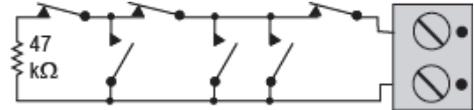

Figure 4. E.O.L. Wiring Example
2.2 Auxiliary Input Wiring (Fig. 4)
- For E.O.L. supervision: Normally Closed (N.C.) sensor contacts can be used, as shown in Figure 4. A 47kΩ E.O.L. resistor must be wired at the far end of the zone loop.